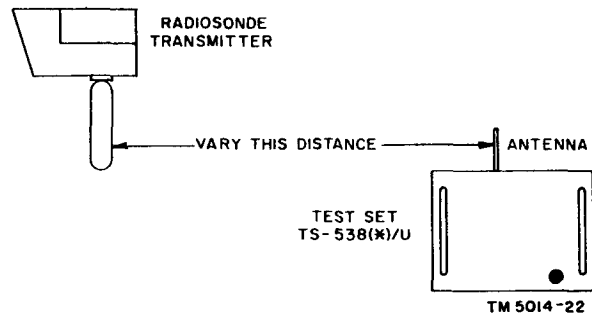

Figure 6. Checking frequency of radiosonde transmitter.
a. Frequency Check (fig. 6). Ac power for the test set is not required for this test.
- (1) Place the test set on a suitable workbench. Check to see that all controls are in the positions listed in paragraph 13a.